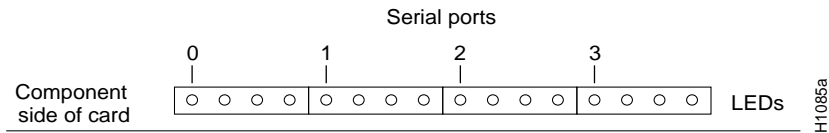

Figure 4 LED Indicators—Partial Front-Edge View
- Step 8** Check the LEDs. The SCI card contains a bank of 16 LEDs; however, only four are currently used. The LEDs listed in Figure 4 turn on when the interface acknowledges the Carrier Detect signal. See “LED Indicators” on page 10.
The SCI card contains a bank of 16 LEDs. (Four are currently used.) Figure 4 shows the LEDs that are used and the serial port each LED represents. At startup, all LEDs flash and then only those LEDs that indicate active interfaces will stay on. An interface is considered active if Carrier Detect (CD) is present on that serial interface and the interface is enabled. A problem is indicated if all LEDs remain on after the system boots, or if the LED of a active interface does *not* stay on after the system boots.